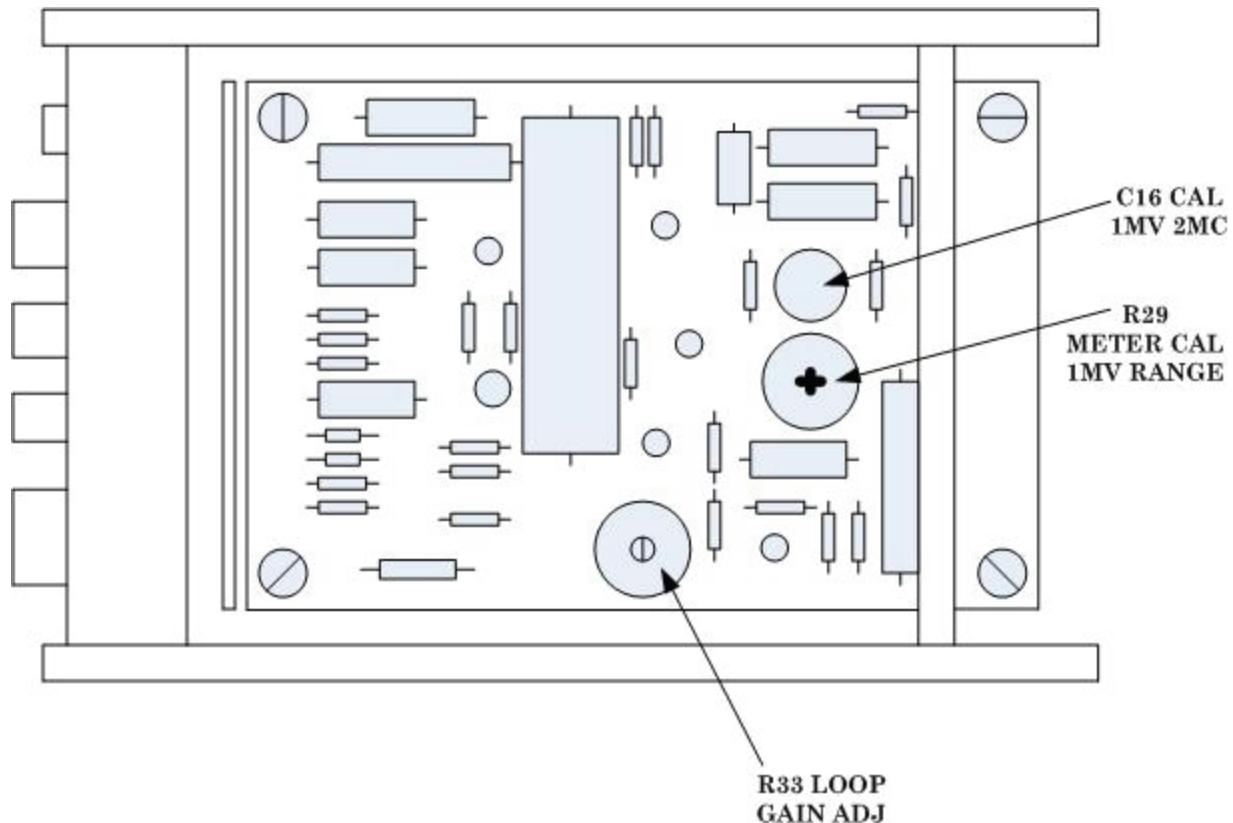
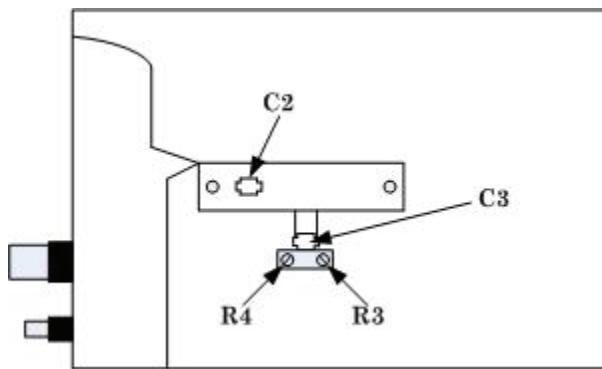

Figure 1. Voltmeter - top view
Figure 2. Voltmeter - right side view.
- (1) Connect the divider to the calibrator output and TI input. Adjust calibrator output for 1.000 V, 400 Hz.
- (2) Adjust R29 METER CAL 1MV RANGE (fig. 1) until TI meter indicates **1** on **0-to-1** scale (R).
- (3) Adjust calibrator output for 100 mV, 400 Hz.
- (4) Adjust R3 (fig. 2) until TI meter indicates **1** on **0-to-1** scale (R).
- (5) Adjust calibrator output for 30 V, 400 Hz.
- (6) Adjust R4 (fig. 2) until meter indicates **3** on **0-to-3** scale (R).
- (1) Adjust C16 CAL 1MV 2MC (fig. 1) and calibrator until calibrator **Error =** indicates within ± 2 percent at 1 MHz and within ± 5 percent at 2 MHz (R).
- (2) Adjust R33 LOOP GAIN ADJ (fig. 1) and calibrator until calibrator **Error =** indicates within ± 2 percent between 300 kHz and 1 MHz (R).
- (3) Set **RANGE VOLTS DB** switch to **.1**.
- (4) Adjust calibrator frequency for 400 Hz and output for an indication of **1** on TI meter **0-to-1** scale.
- (5) Press **NEW REF** pushbutton on calibrator.
- (6) Increase frequency to 300 kHz.
- (7) Adjust C2 (fig. 2) until TI indicates **1** on **0-to-1** scale (R).
- (1) Set calibrator to 9.4 V and 300 kHz.
- (2) Adjust C3 (fig. 2) for a 9.4 V indication on TI (R).